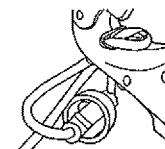

Fig. 2
2. Make a narrow loop with the extension cord and push the loop through the cord hole in the rear handle (Fig. 2).
3. Move the loop over and onto the cord hook and pull the cord gently to secure the loop into the hook (Fig. 2). This helps prevent accidental disconnection.
2. Remove the loop in the extension cord from the cord hook (Fig. 2).